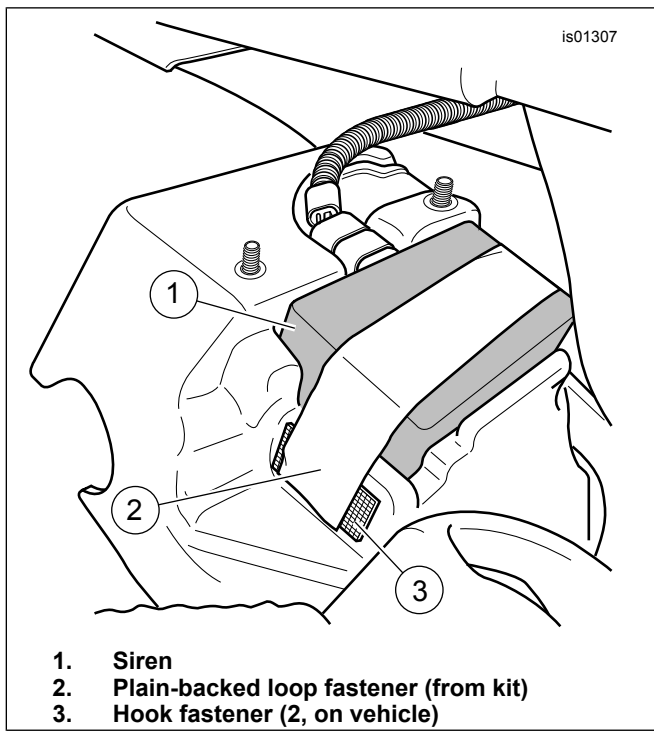

Figure 5. Secure Siren Box (2002-2006 VRSCA/B/D Models)
7. With the sounder disc (3) facing the mud flap, position the siren on the mud flap as shown in Figure 5. Secure the siren (1) to the existing hook fasteners on the mud flap with the plain-backed loop fastener (2) from the kit.